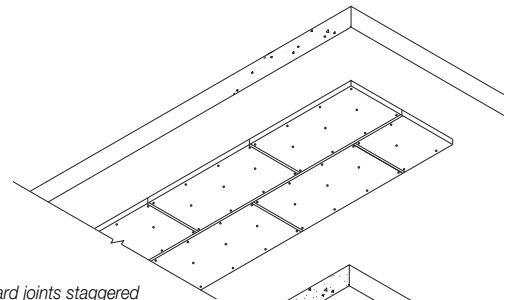
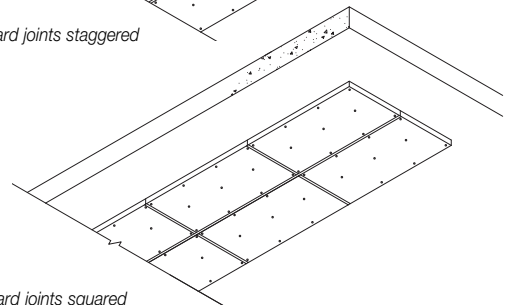

Figure 5 Board joints staggered
Figure 6 Board joints squared
2. Board joints can be either staggered (see Figure 5) or squared (see Figure 6) and taped with 96 mm wide silver **Kingspan Insulation Tape**. 4 No. fasteners along each length - no less than 50 mm - no more than 150 mm from edge of board, 3 No. fasteners along the middle (offset from edge positions as per diagram Figure 3).